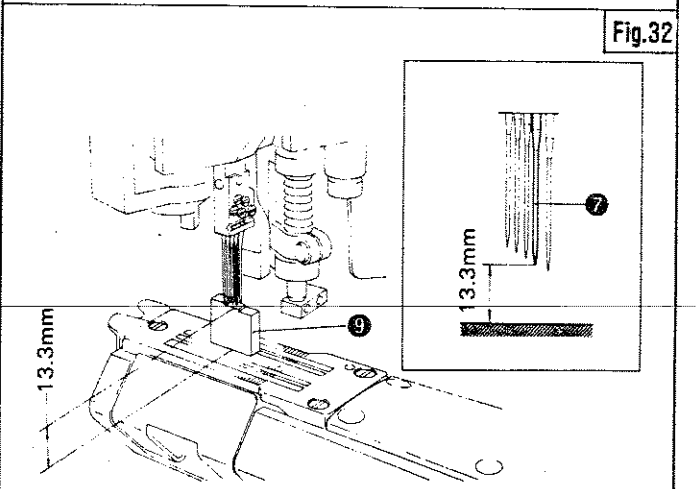

Fig.32
## NEEDLE HEIGHT ADJUSTMENT (Fig. 32 and 33)
■ For instructions for using Gauge ⑨, refer to Fig.32.